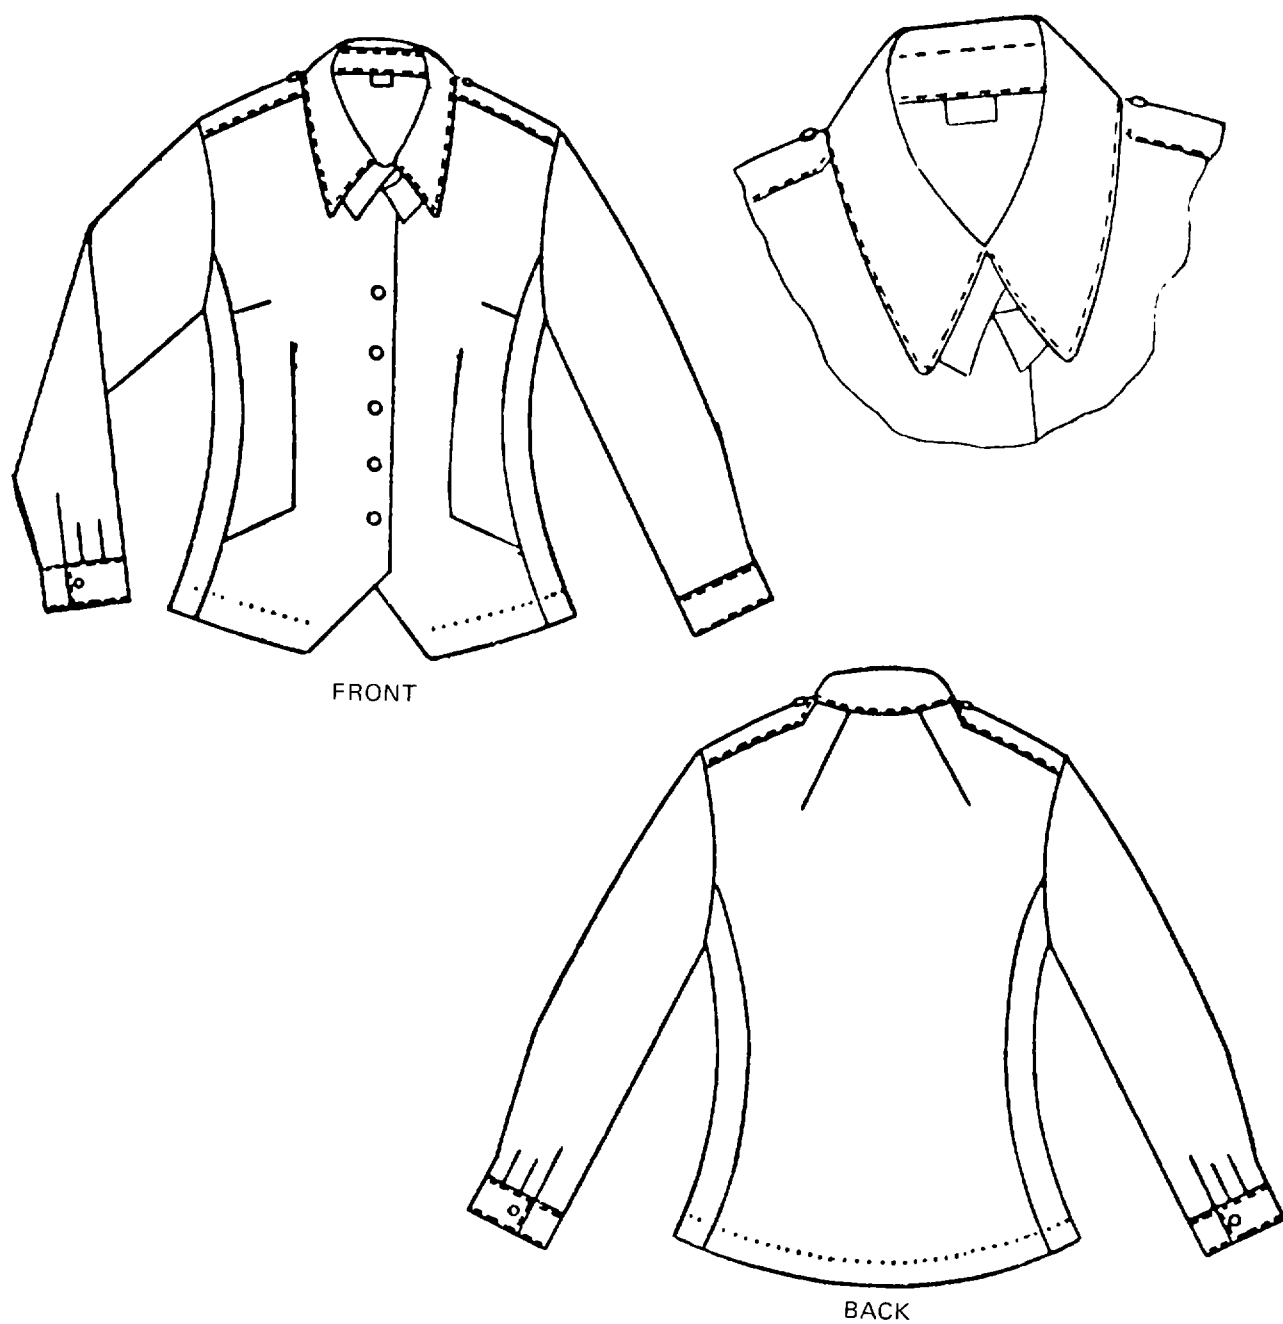

Figure 19-4. Women's Long Sleeve Shirt, Army Green 415
- d. Shirt Woman's, Long Sleeve, Polyester/Cotton Army Green 415, Durable Press The shirts are fabricated from Polyester/Cotton Broadcloth, Army Green 415, conforming to MIL-C-43992. The shirt is semi-fitted hip length overblouse style with long sleeve, shoulder loop, collarstand, 6 button cut away front, side body, and darts at waist, bust and back neck, each shirt has a black detachable neck band and tab that fastens to the collarstand (See figure 19-4 and tables 19-3 and 19-4 )